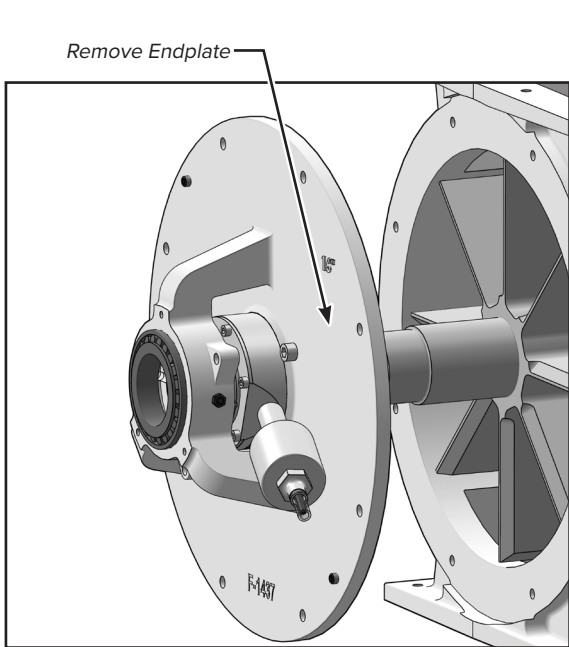

FIGURE 18
- 6. Remove the endplate from the airlock (figure 18).